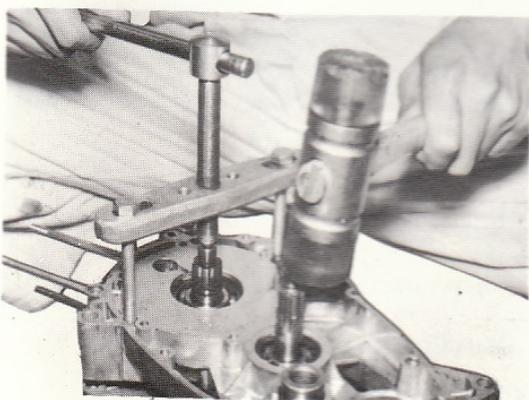

Fig. 3-55
- Separate the crankcase using a crankcase dividing tool. (Figs. 3-55 and 56)